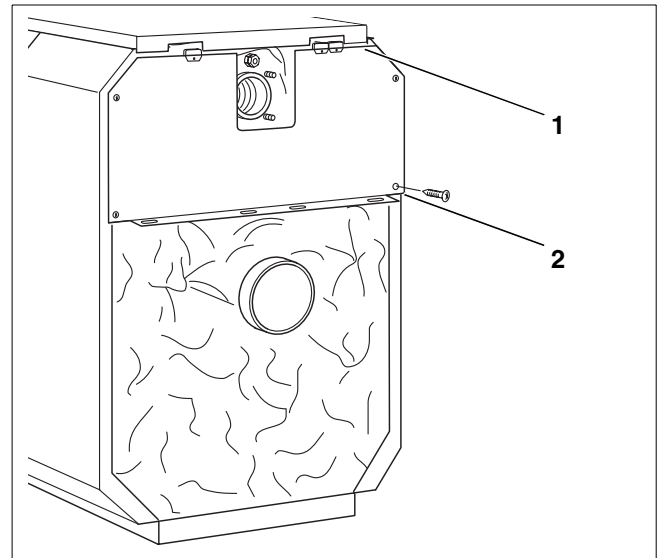

Fig. 54 Assembly – Fitting upper rear panel
- Slide the upper rear panel of the boiler casing under the rear cover (Fig. 54, **ref. 1**) and screw it to the side panels from the rear with four self-tapping screws (Fig. 54, **ref. 2**).